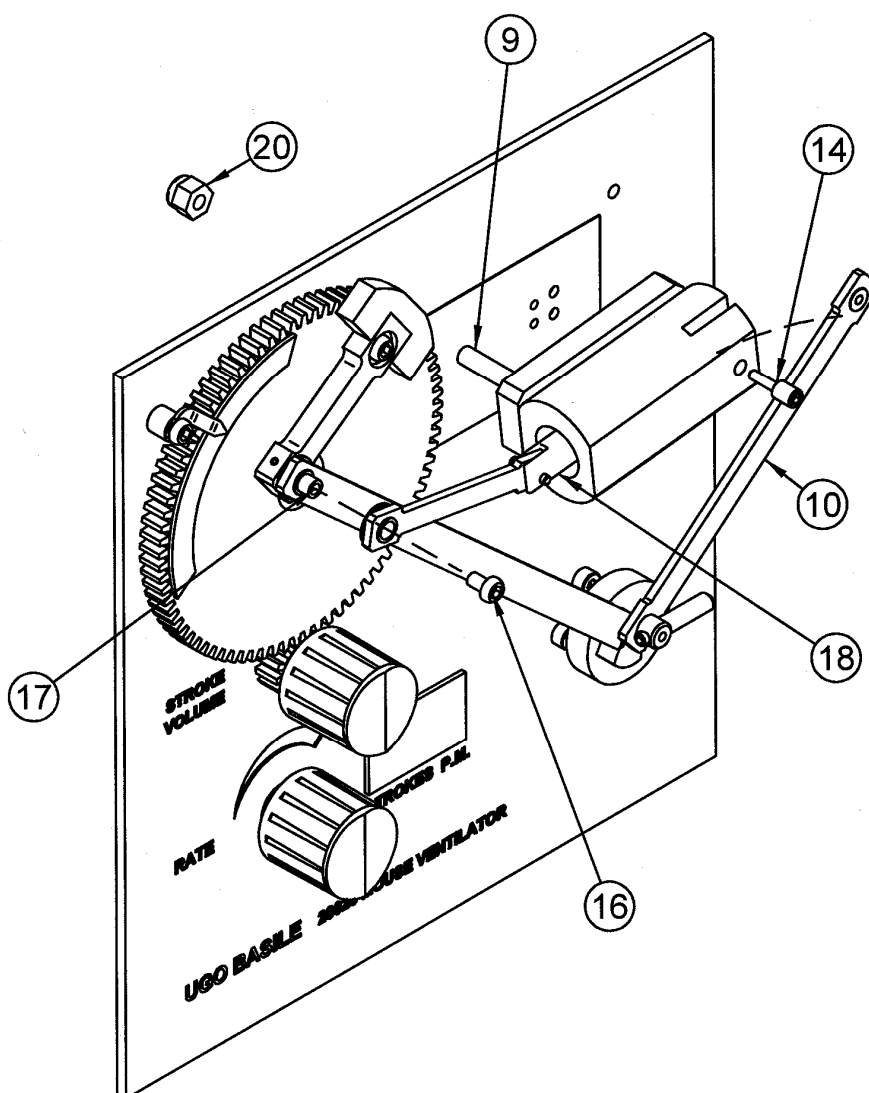

Figure 5 “Changing Cylinder/Piston Assembly”
- b) Remove the self-locking nut 4MA (**20**) by the appropriate 7mm wrench on the head of the cylinder threaded stud (**9**), see Figure 5 “Changing Cylinder/Piston Assembly”.